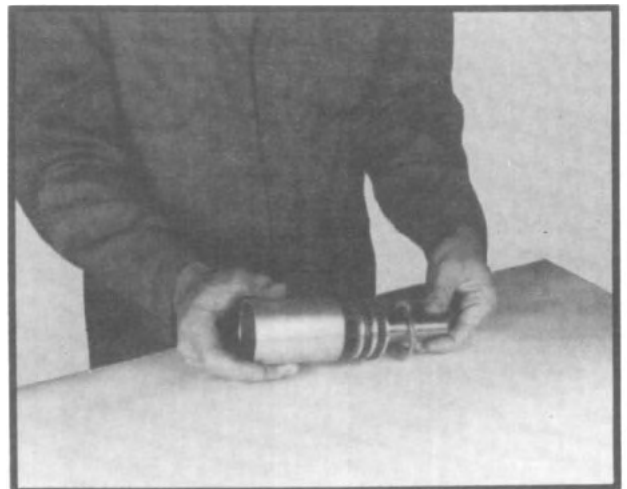

Fig. 201
17. Coat cylinder tube lightly with gear lubricant, install cylinder tube over piston and seat against neutral adapter tube. (See fig. 201)